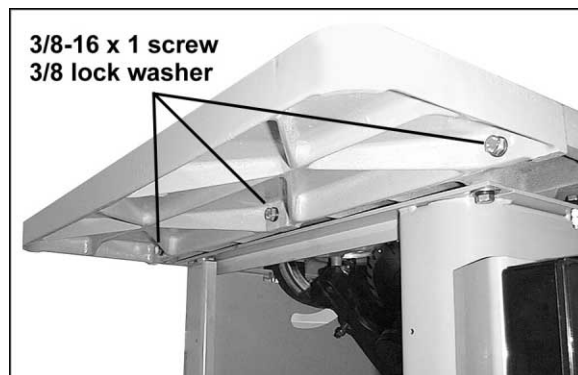

Figure 3
1. Mount the cast iron extension wings using six 3/8-16 x 1 hex head screws and six 3/8 lock washers. See Figure 3. Have an assistant hold the extension wing up to the table, and insert the screws and washers. Finger tighten only.